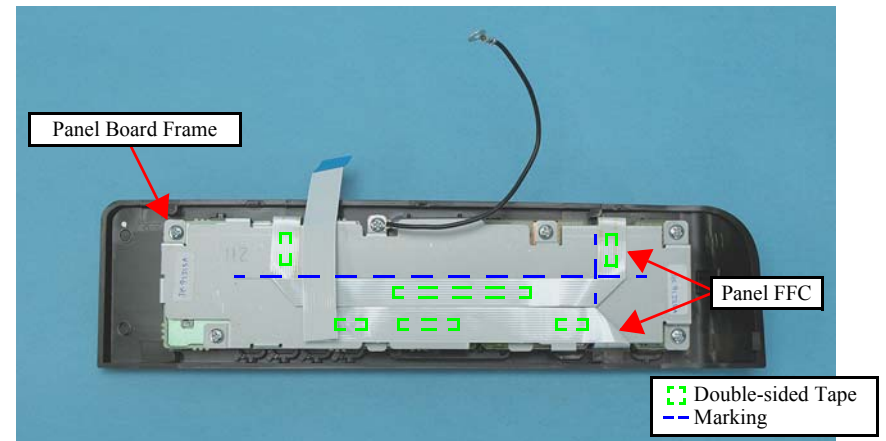

Figure 4-148. Removing the Panel Board Frame
- When connecting the Panel FFCs (x2), align them with the marking on Panel Board Frame, and secure them with double-sided tape to the locations shown in Figure 4-148